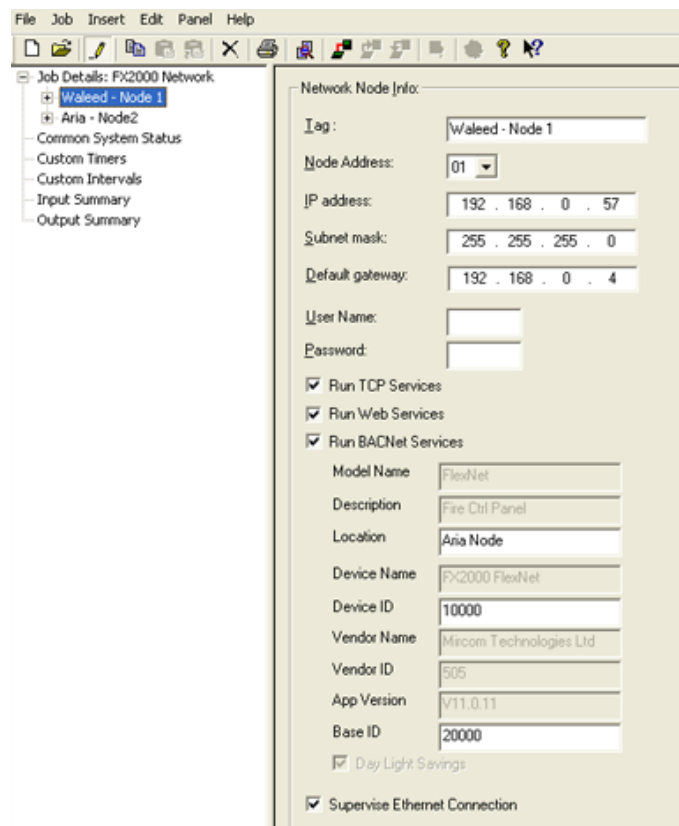

Figure 113 MGC Configurator Set to Supervise Ethernet Connection
- Ethernet connection must be supervised in configuration software as shown in Figure 113.